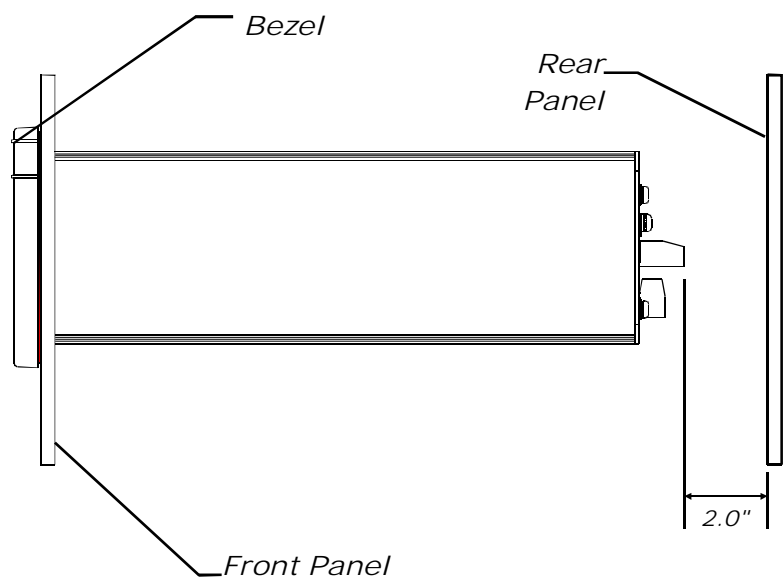

FIG. 3-1 2" REAR PANEL CLEARANCE REQUIREMENT
- Overall depth of the enclosure must be a minimum of 11.5" to allow for the 2" clearance between the rear panel of the HI 2151/30WC and the inside surface of the rear panel of the enclosure. (See Fig. 3-1)